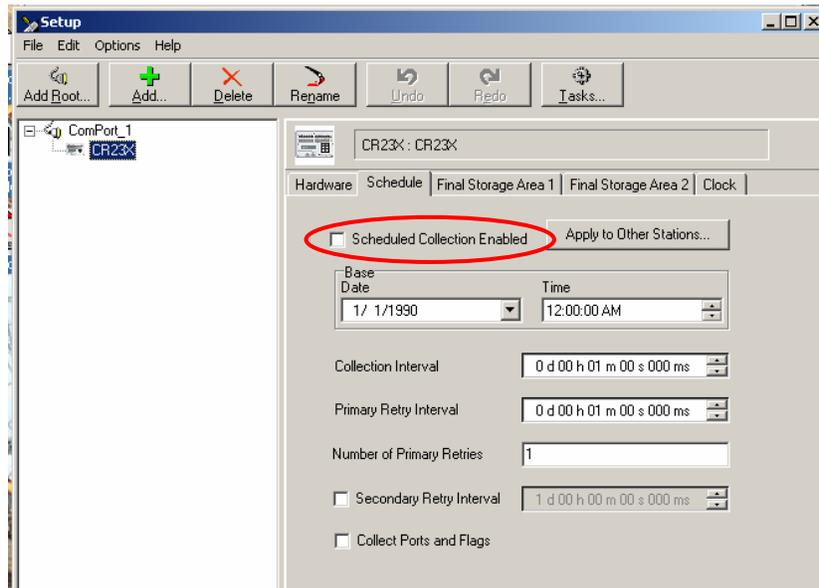

Figure 16
- b) Under the **Schedule** tab, check the **Scheduled Collection Enabled** box (see Figure 16). Leave all other settings as they are.